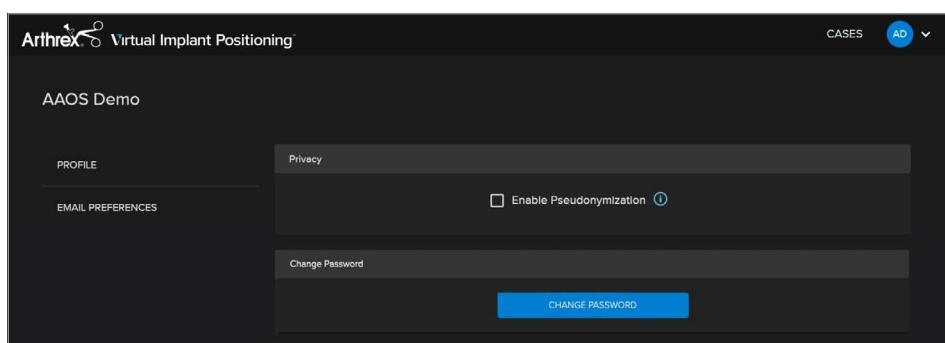

Figure 85. Privacy and Security page
■ Users may enroll in pseudonymization where when enrolled, the DICOM file will have all PHI removed and replaced with a placeholder of the user's choosing during the CT upload process. Users may opt in by selecting the "Enable Pseudonymization" toggle shown in Figure 85.
- Users may also change their password using the "Change Password" tab where the user will be redirected to Okta to reset their password (Figure 85).